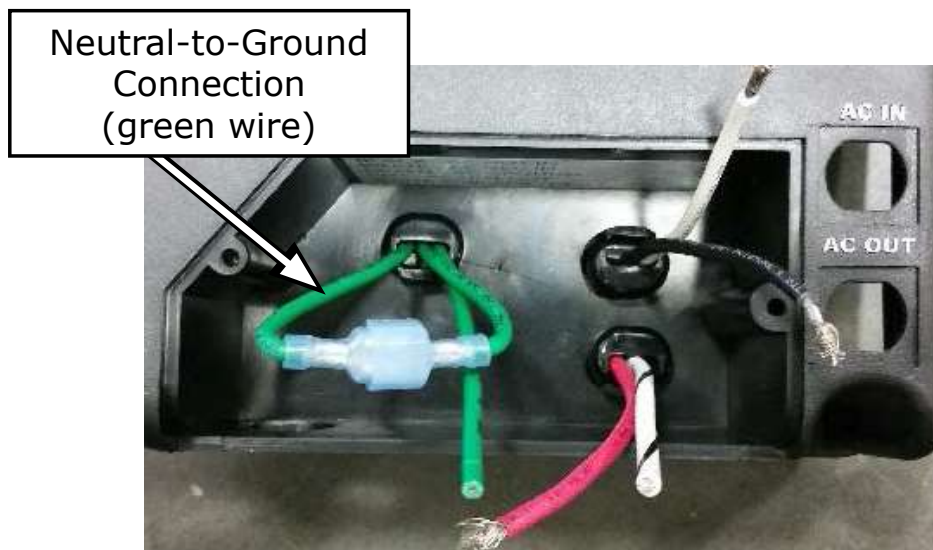

Figure 2-12, Disconnecting Neutral-to-Ground Connection
2. Inside the AC wiring compartment, locate the green wire with the insulated connector (Figure 2-12). This insulated connector connects the neutral and ground inside the inverter while inverting.